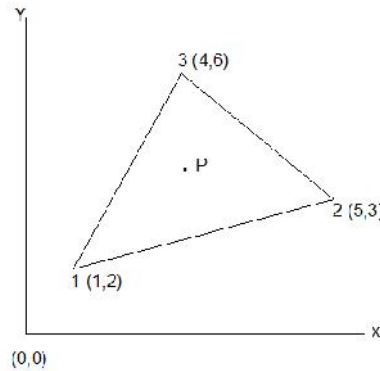

Fig.3
- b) The nodal coordinates of the triangular element are shown in Fig.3, at the interior point P the X coordinate is 3.3 and the shape function at node 1 is N_1 is 0.3, Determine the shape functions at nodes 2 & 3 also y coordinate of the point P. 7